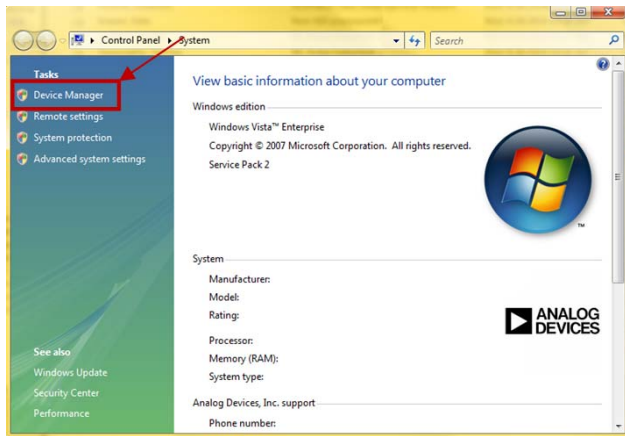

Figure 5. Computer Properties
1. From the **Start** menu, right-click **Computer** and select **Properties**. The window shown in Figure 5 should open.